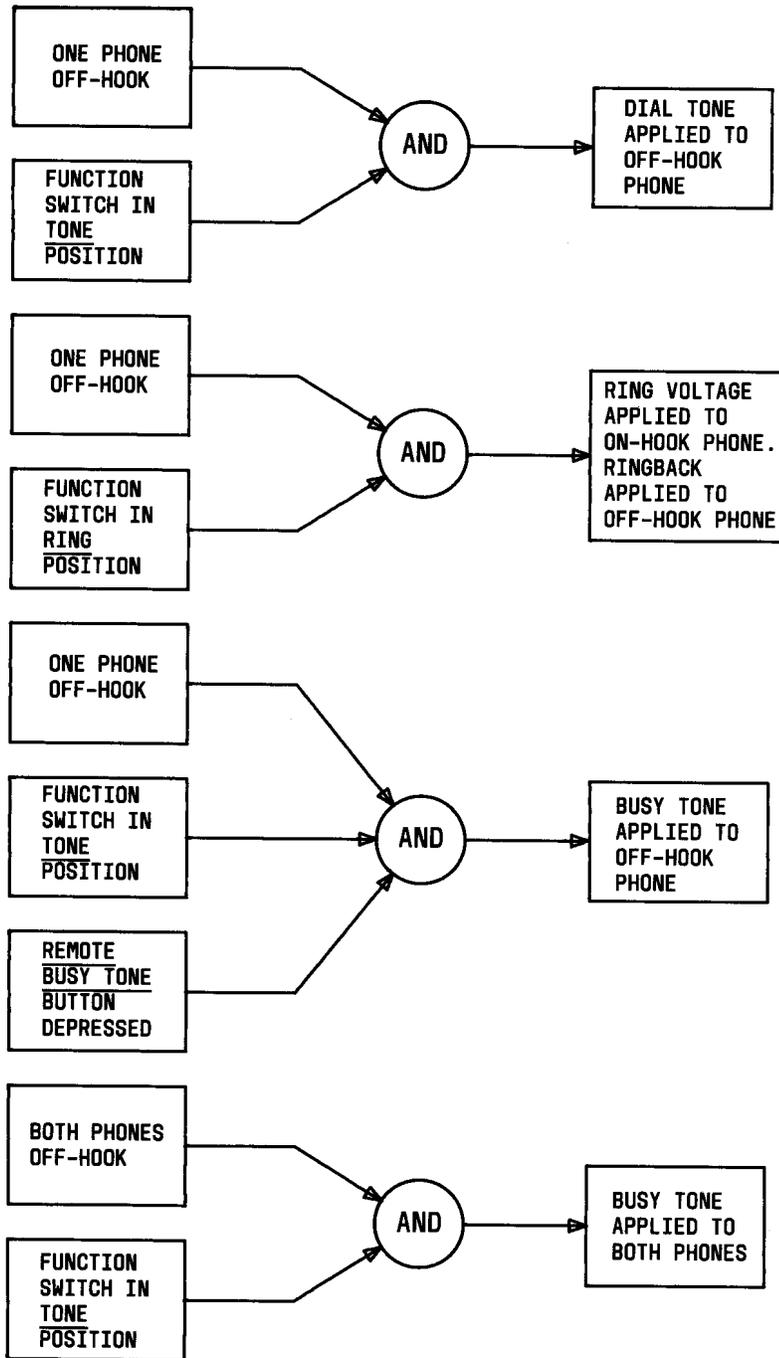
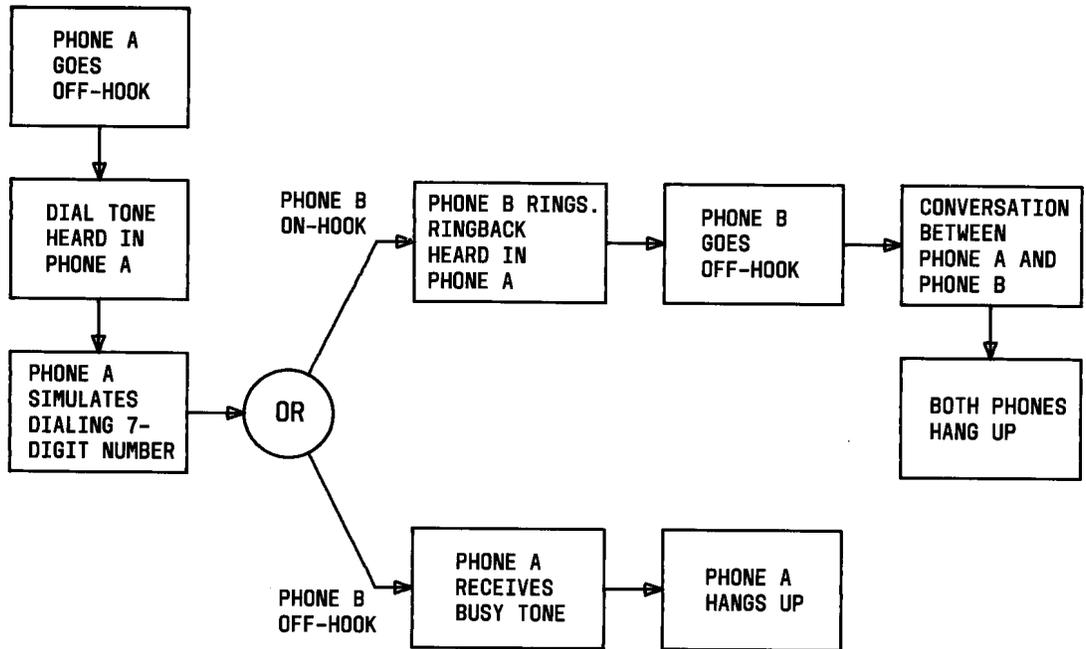

Fig. 7—Teletrainer Operational Logic
Fig. 8—Normal Call Sequence
3.05 Use of the Teletrainer is summarized in the operational logic diagram (Fig. 7) and the call sequence diagram (Fig. 8). The teacher is responsible for operating the RING-TALK-TONES 3-position toggle switch and the REMOTE BUSY TONE button to apply the proper signals to the calling and called telephones and for adjusting the output level of the loudspeaker with the VOLUME knob.